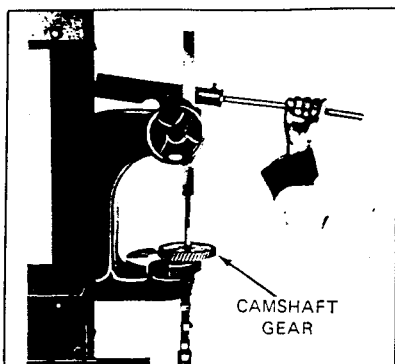

Figure 8-1-32
2. Support the camshaft gear and press shaft out of gear (see Figure 8-1-32).